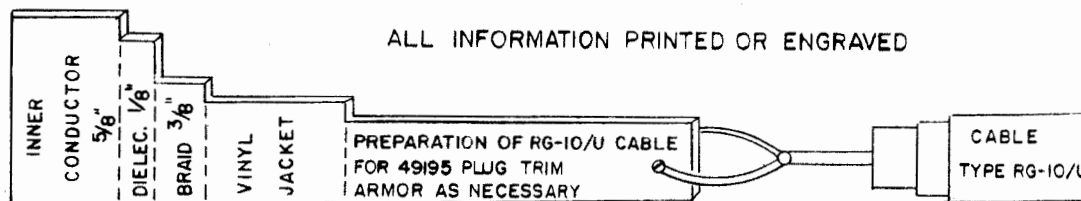

Figure 10-6. Template For Use In Preparing Cable Assemblies
a. USE OF TEMPLATE. - A flat, 1/16-inch thick, bakelite template can be made up as a guide in the assembly of cables to connectors (see Figure 10-6).